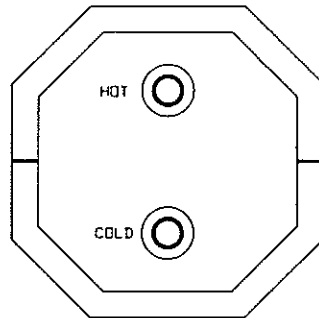

Figure 4
**A.** Water connections are made at the rear of the water heater. Refer to Figure 4. Connect the hot and cold water lines to the 1/2" female pipe fitting provided on the rear of the tank. These fittings are marked "HOT" and "COLD". Use a pipe thread compound suitable for potable water or pipe thread tape on all connections to assure they will not leak.